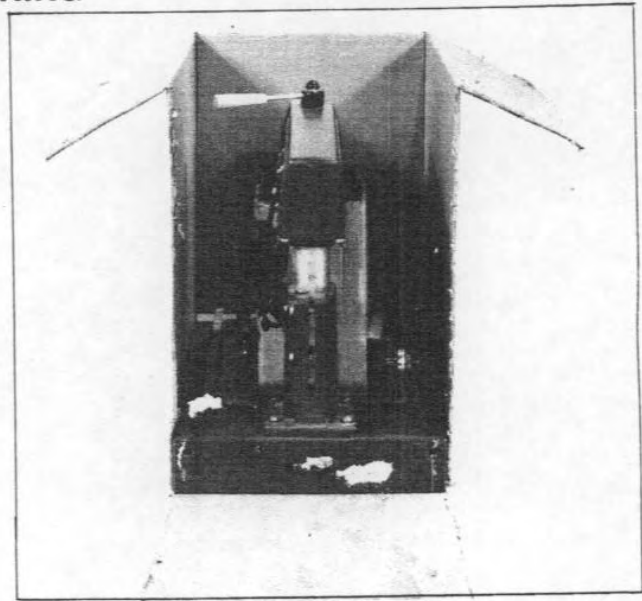

Fig. 2
2. Slit the carton along the sides at column end of the saw, as shown in Fig. 2. Then remove the saw from the carton by pulling it straight out.